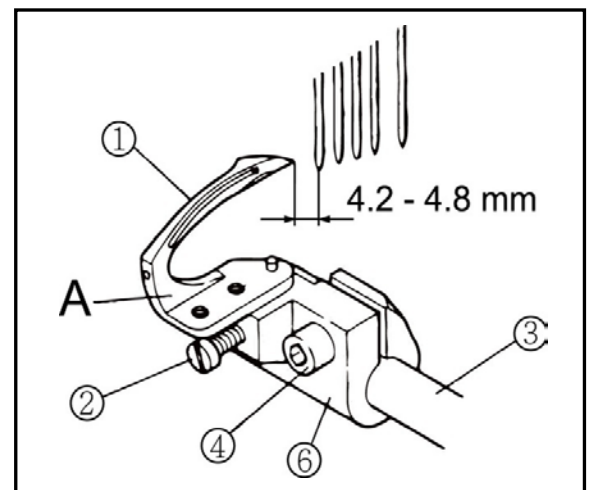

Fig. 48
Loosen the screw ② to adjust it. (Fig. 48)